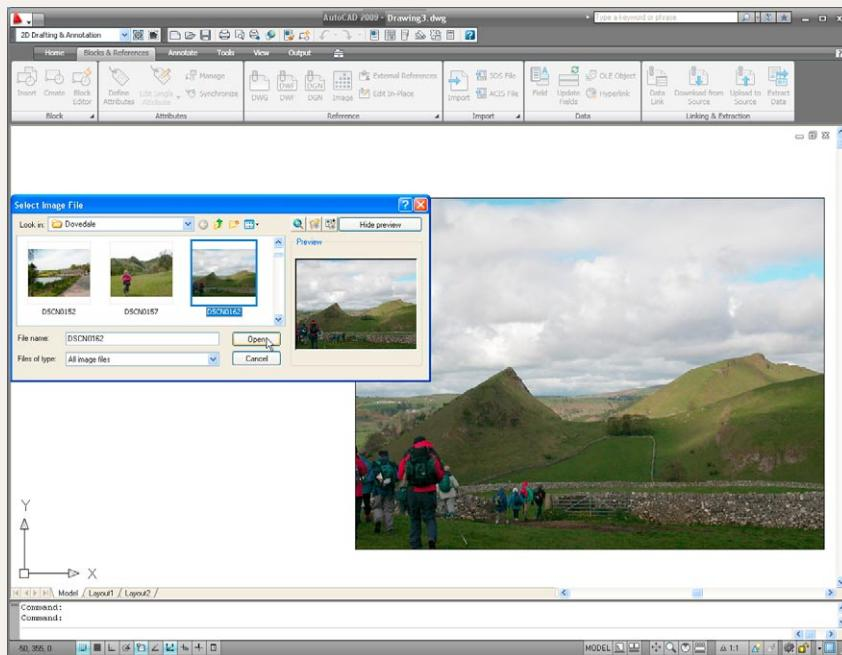

Fig. 10.30 Exercise 3 – an example
3. Click Image... in the Reference panel and insert a JPEG image (*.jpg file) of a photograph into the AutoCAD 2010 window. An example is given in Fig. 10.30.